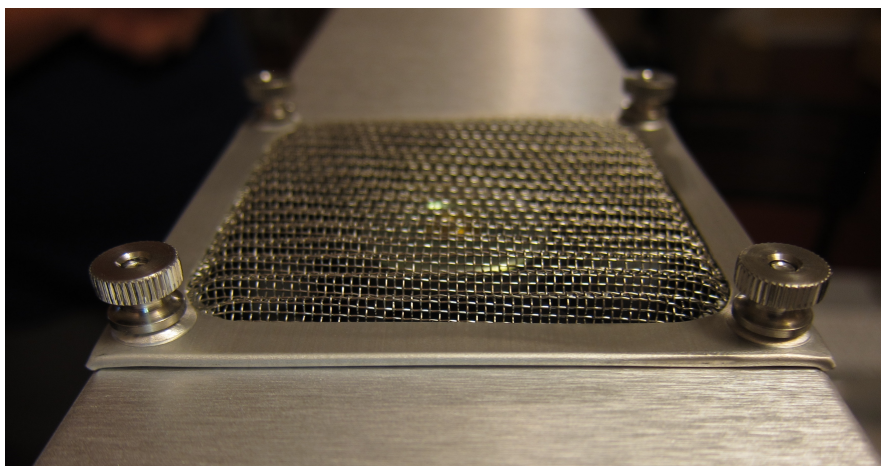

Figure 25: The correct position of the filter. Note there is not gap between the filter and the chassis
6. Install the filter screen (03625-M) with the grooves in the vertical orientation, see Figure 25.